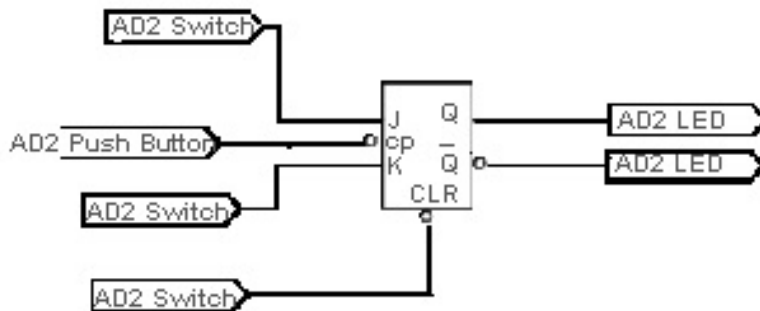

Figure 5, Connections to 7473
- (1) Wire the 7473 as shown in figure 5 using virtual switches and virtual LEDs and a virtual push button output (BUTTON: 0 to 1) on the Analog Discovery as the clock input. Do not forget to hook up, and indicate on your diagram, 5V power and ground (note they are NOT pins 7 and 14).